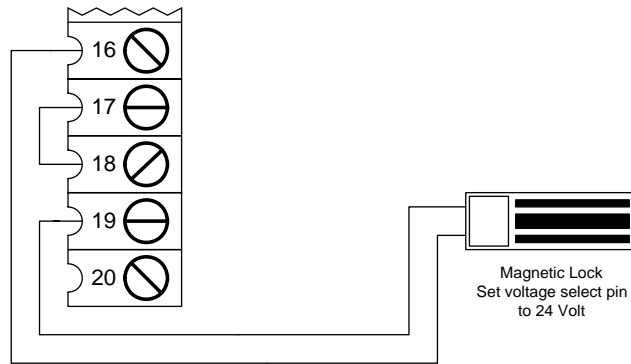

Figure 31
- Connect the magnetic lock as shown in Figure 31.